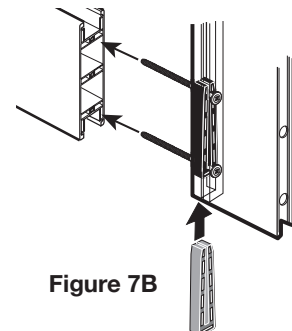

Figure 7B
Slide a reinforcement clip (D) into the channel and over the screw shafts. Make sure side of the bottom rail with the thinner channel is facing up towards the inside of the door. Place the end of the Bottom rail (C) against the screws, lining up the holes in the extrusion. See Figure 7B